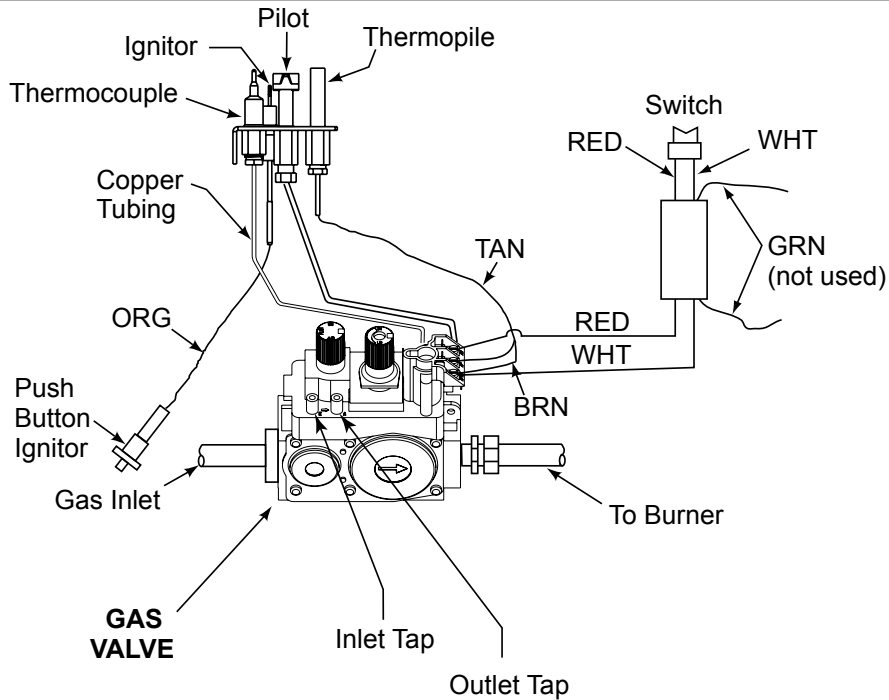

Figure 13.2 Standing Pilot Ignition Wiring Diagram
- Refer to Figure 13.2, Standing Pilot Wiring Diagram